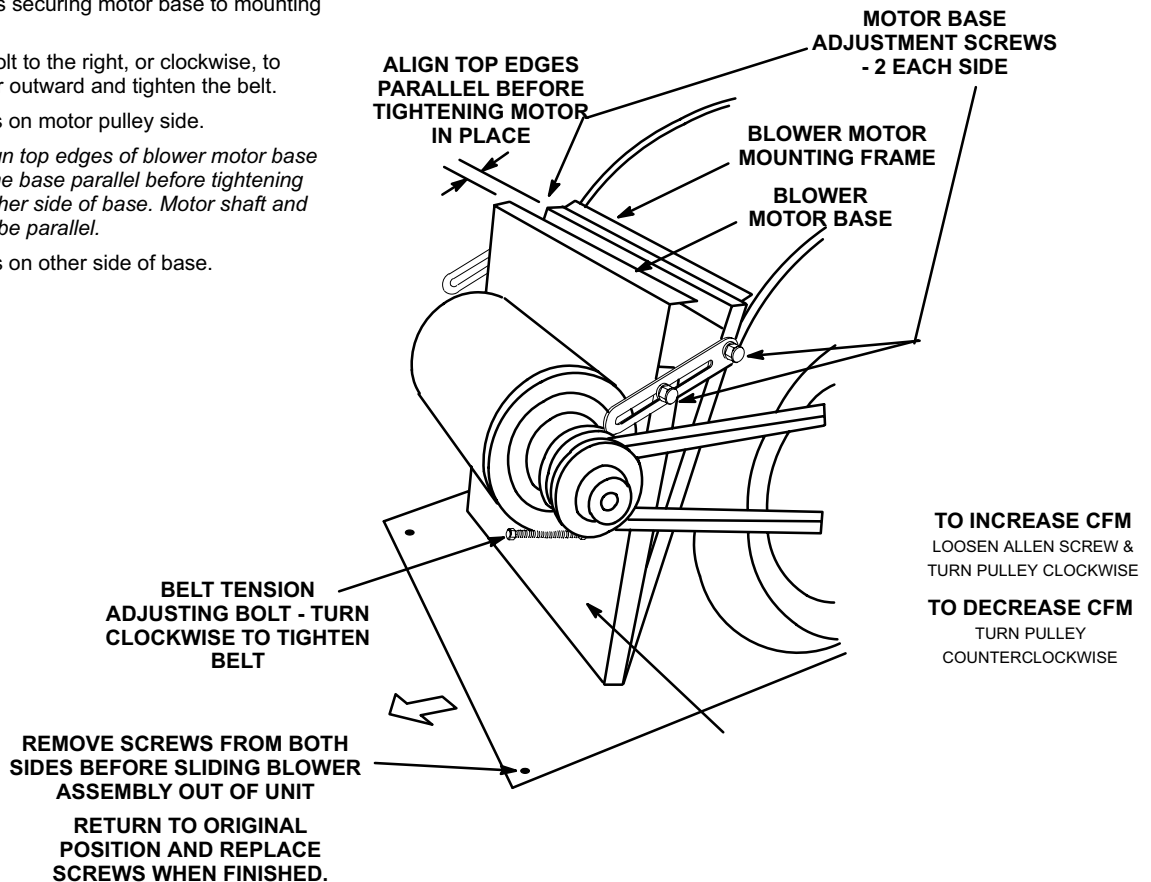

FIGURE 9
The blower assembly is secured to a sliding base which allows the entire assembly to be pulled out of the unit. See figure 9.
- 4- The blower RPM can be adjusted at the motor pulley. Loosen Allen screw and turn adjustable pulley clockwise to increase CFM. Turn counterclockwise to decrease CFM. See figure 9. Do not exceed minimum and maximum number of pulley turns as shown in table 2.
- 1- Loosen four bolts securing motor base to mounting frame. See figure 9.